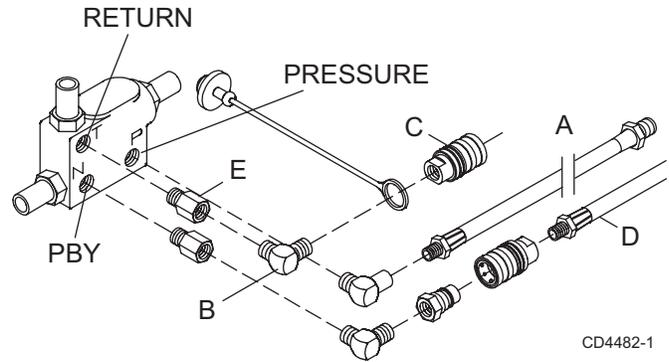

Figure 14. 475 Loader Hydraulic Fitting
1. Remove female quick coupler (C), dust plug, and elbow (B) from the RETURN port (T) on the hydraulic manifold. Leave adapter (E) in place. See Figure 14.
2. Remove hose (A) from elbow in the PRESSURE port (P) on the hydraulic manifold.
3. Disconnect hose (D) from PBY port on the hydraulic manifold.